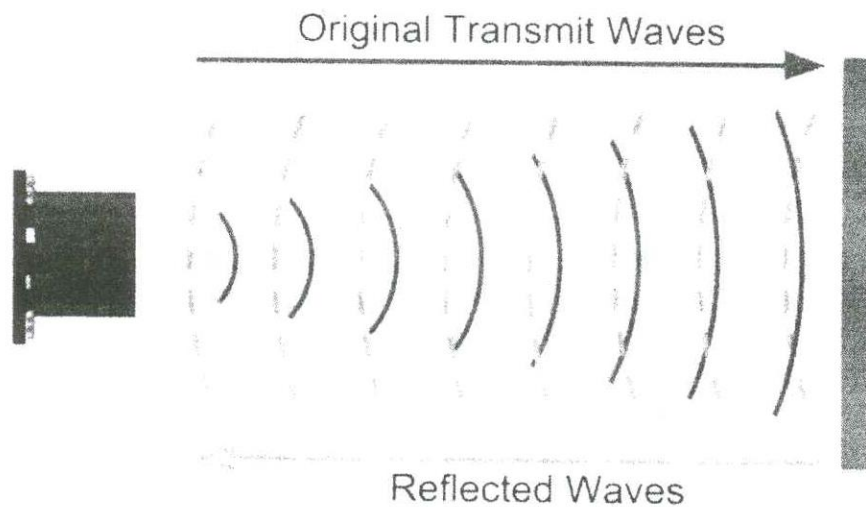

Figure Q4(i)
- Q4.** An ultrasonic sensor is to be used to measure the distance from the sensor to a stationary object (Figure Q4 (i)). Two 7-segment displays are to be used to display the distance results. Distance between and including 5 cm and 20 cm is considered valid and to be displayed. If the distance is out of the range, all 14 LEDs of two 7-Segments must be turned off and only numbers must be displayed if valid distance detected. An Arduino UNO microcontroller board will be used as the controller.